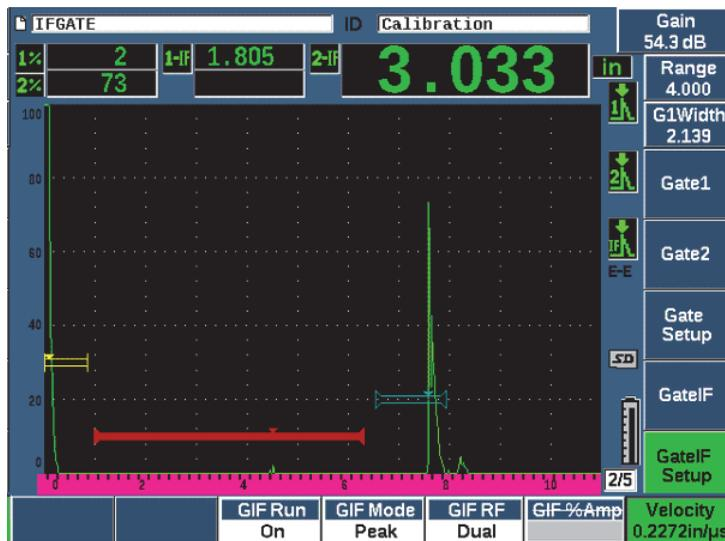

Figure 11-33 Setting the material velocity
3. Use the adjustment knob or arrow keys to set the required velocity (see Figure 11-33 on page 272).